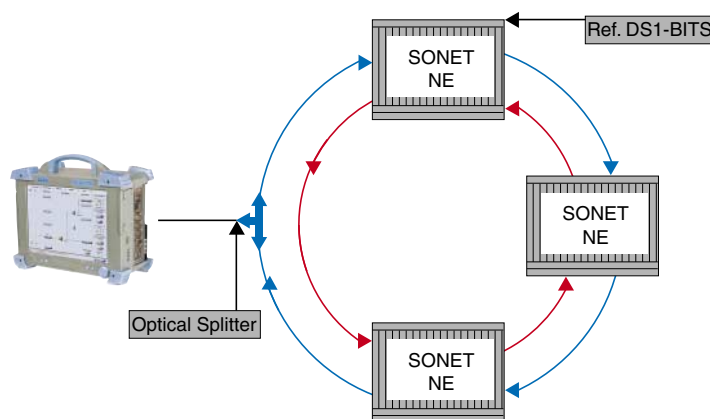

Figure 1.2. Configuration for synchronization measurement
1. Connect the FTB-8000 to the network under test in monitor mode via an optical splitter (see Figure 1.2).